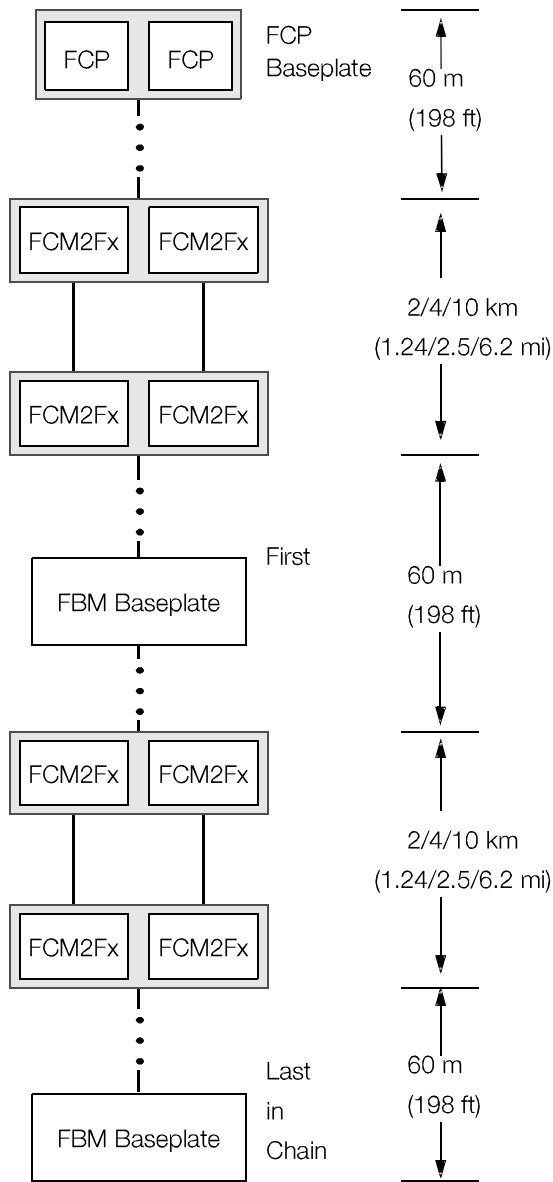

Figure 5. Fieldbus Cable Length Restrictions w/FCM2Fs Between FCP and FBM Baseplates, and Between Baseplates
(198 ft). Up to four pairs of FCM2Fs can be used in a Fieldbus network (see Figure 5).
* 20 km distance is allowed through the use of four pairs of FCM2F10s, as shown in Figure 5 above.